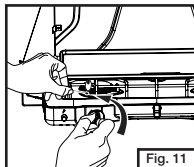
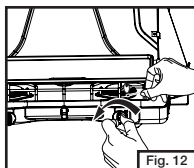

Fig. 11
Fig. 12
- Hold lighted match near burner and open burner valve. (Fig. 11 and Fig. 12)